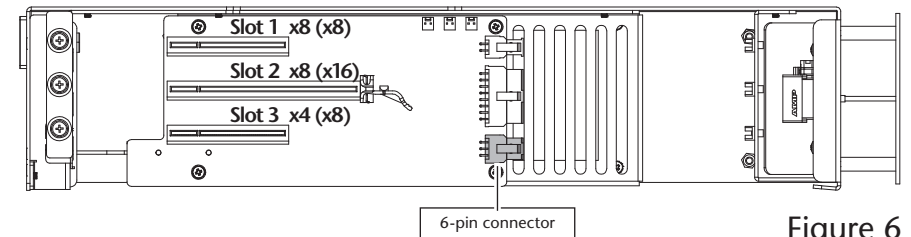

Figure 6
4. **OPTIONAL STEP:** If you are installing a PCIe card which requires additional power and must be connected to auxiliary power, locate the wire harness connected the 6-pin connector indicated in the graphic to the right (Figure 6). Remove the cable twist tie securing the wire harness, and move the loose connector aside for later connection. Otherwise, go to the next step.
**Support Note:** If you are installing an Avid Pro ToolsIHDx PCIe card, you will need to disconnect the PCIe card expansion module's auxiliary power wire harness plugged into the 6-pin connector indicated in Figure 6, and replace it with the one included with the Avid card.